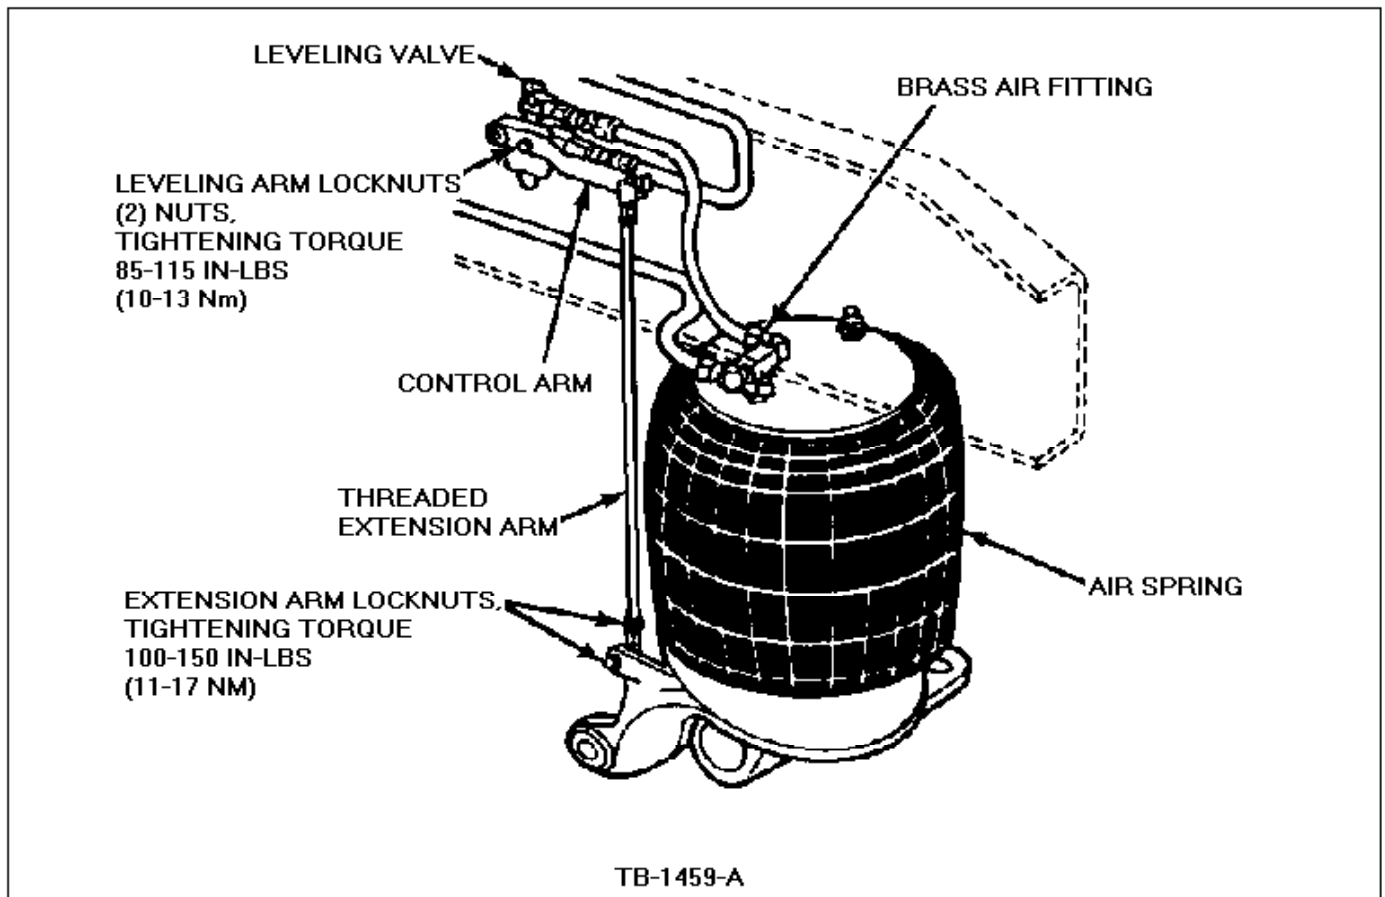

Figure 1 - Article 90-5-11
1. Check to see that the main body of the leveling valve is vertical and the horizontal control arm is parallel to the frame flange, Figure 1.
- a. Remove the locknut used to attach the lower end of the extension arm to the air bag mounting plate, Figure 1.
- b. Loosen the locknut on the lower end of the extension arm, Figure 1.
- e. If further adjustment is still required, loosen the leveling arm locknut, Figure 1, and reposition the arm within the elongated hole in the arm.
6. Reattach the extension arm to the air bag mounting plate. Retorque all locknuts to the proper specifications shown in Figure 1.